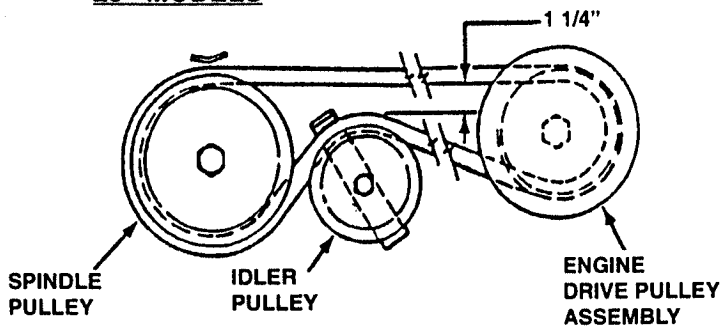

FIGURE 3.4
- b. Measure the belt spacing at idler pulley. See Figure 3.4. The belt spacing should be 1 1/4" but no less than 1".